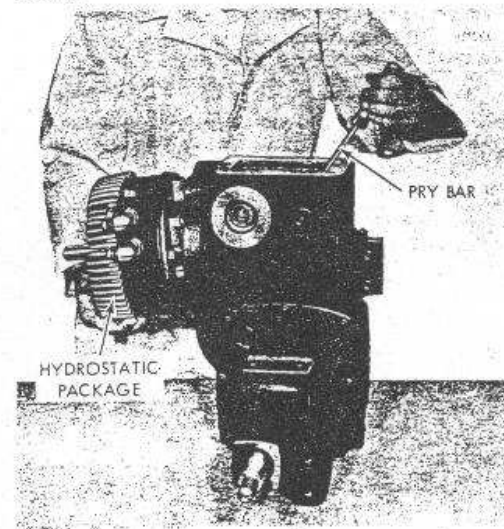

Figure 10
7. Firmly hold input-shaft (or lower fin area) of hydrostatic transmission with right hand - use screwdriver and wedge lightly between inside of transmission housing and rear surface of hydraulic motor block casting - lightly pry transmission forward. Then use both hands to move hydrostatic package out of transaxle housing, using a rocking motion (Fig. 10).